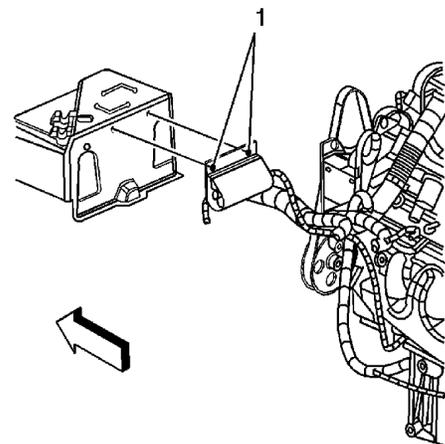

Fig. 2 Coolant heater cord & retainer
9. Remove coolant heater cord retainers (1) from battery cover, if equipped, **Fig. 2**.
7. Remove coolant heater cord retainers (1) from battery cover, if equipped, **Fig. 2**.